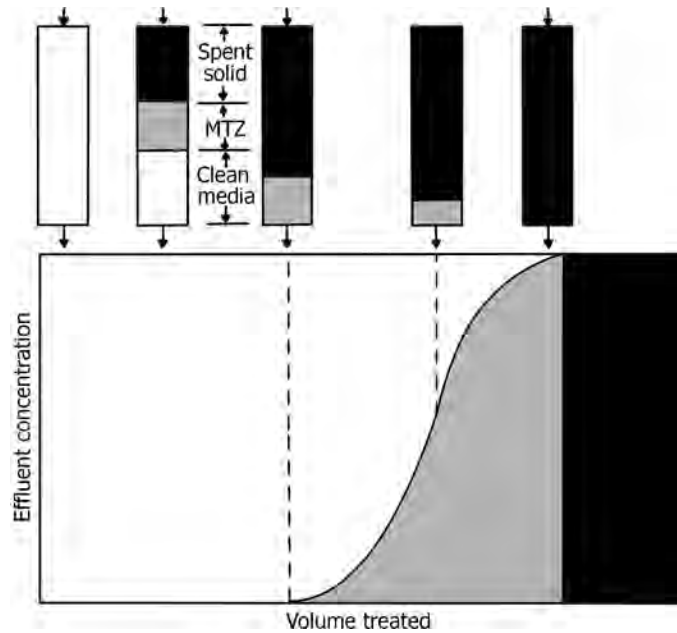

FIGURE 18.42 Adsorption column mass transfer zone and idealized breakthrough zone.
- Figure 18.42 illustrates an idealized breakthrough curve, indicating MTZ.